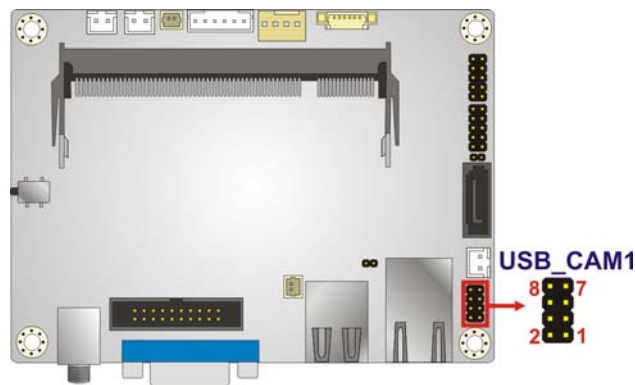

Figure 3-19: USB Connector Location
- CN Location: See **Figure 3-19**